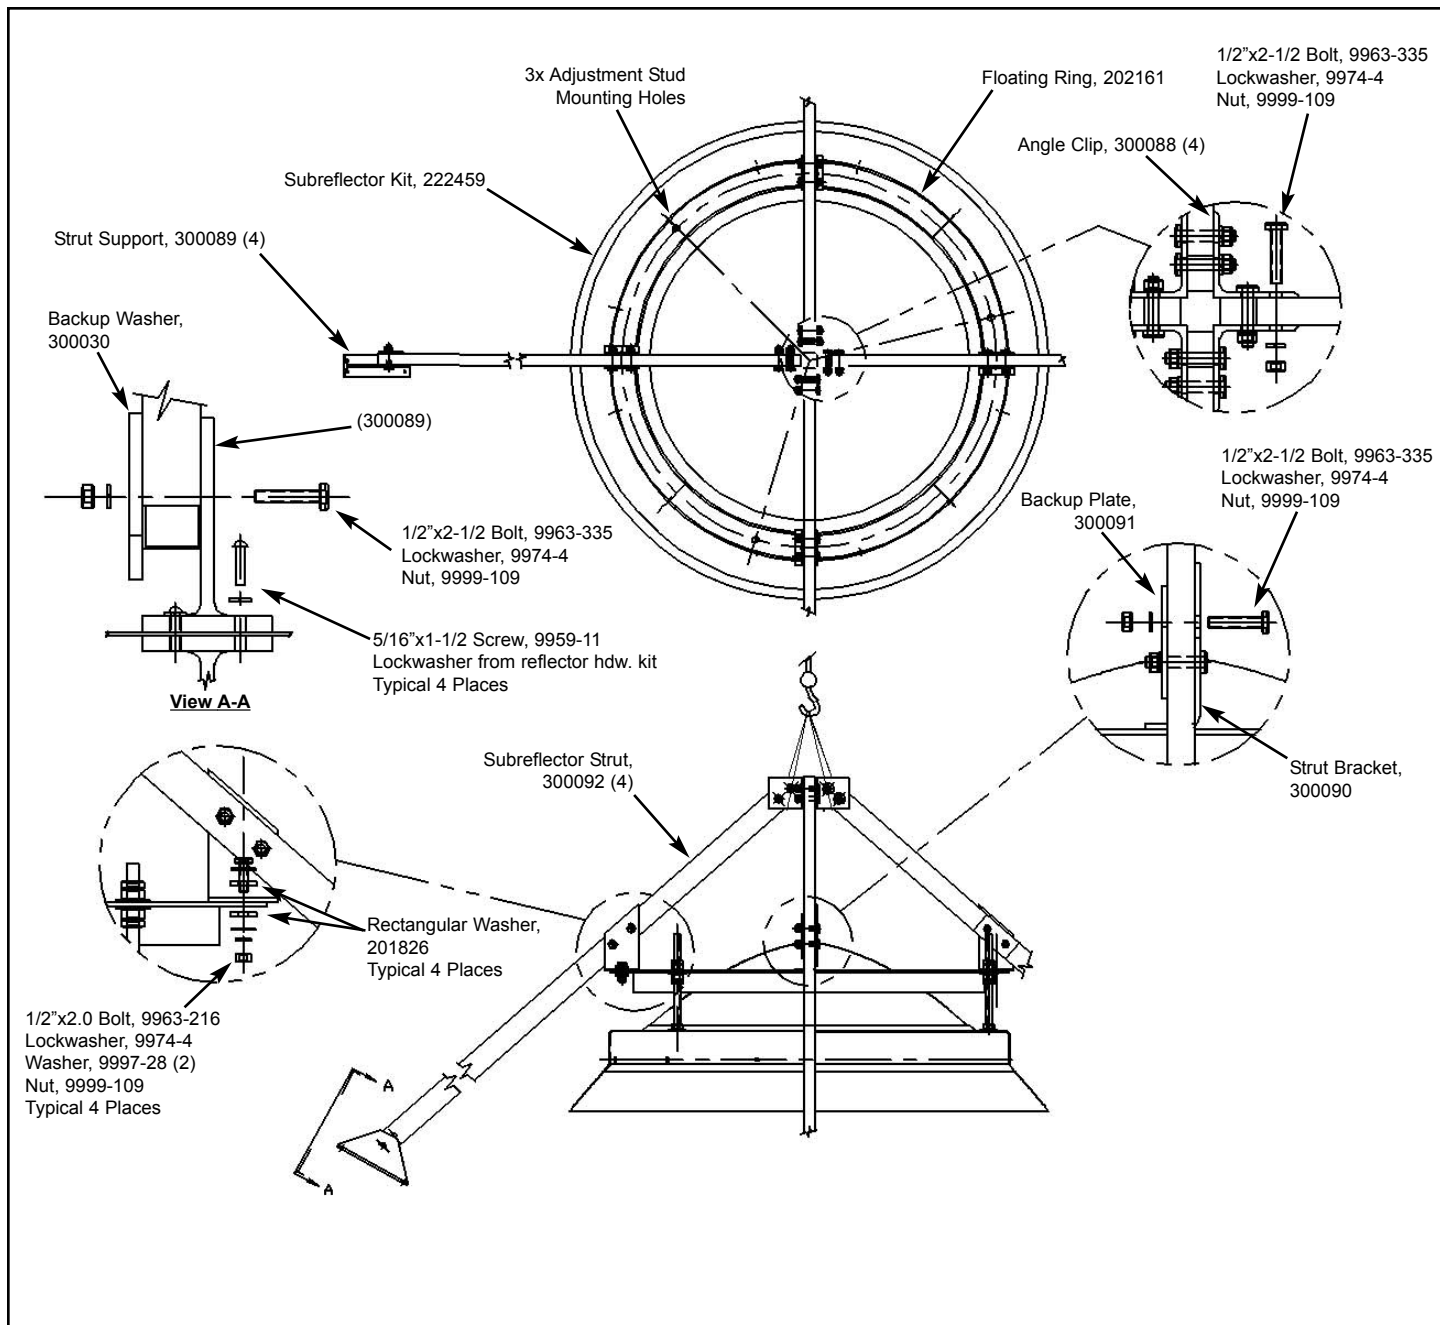
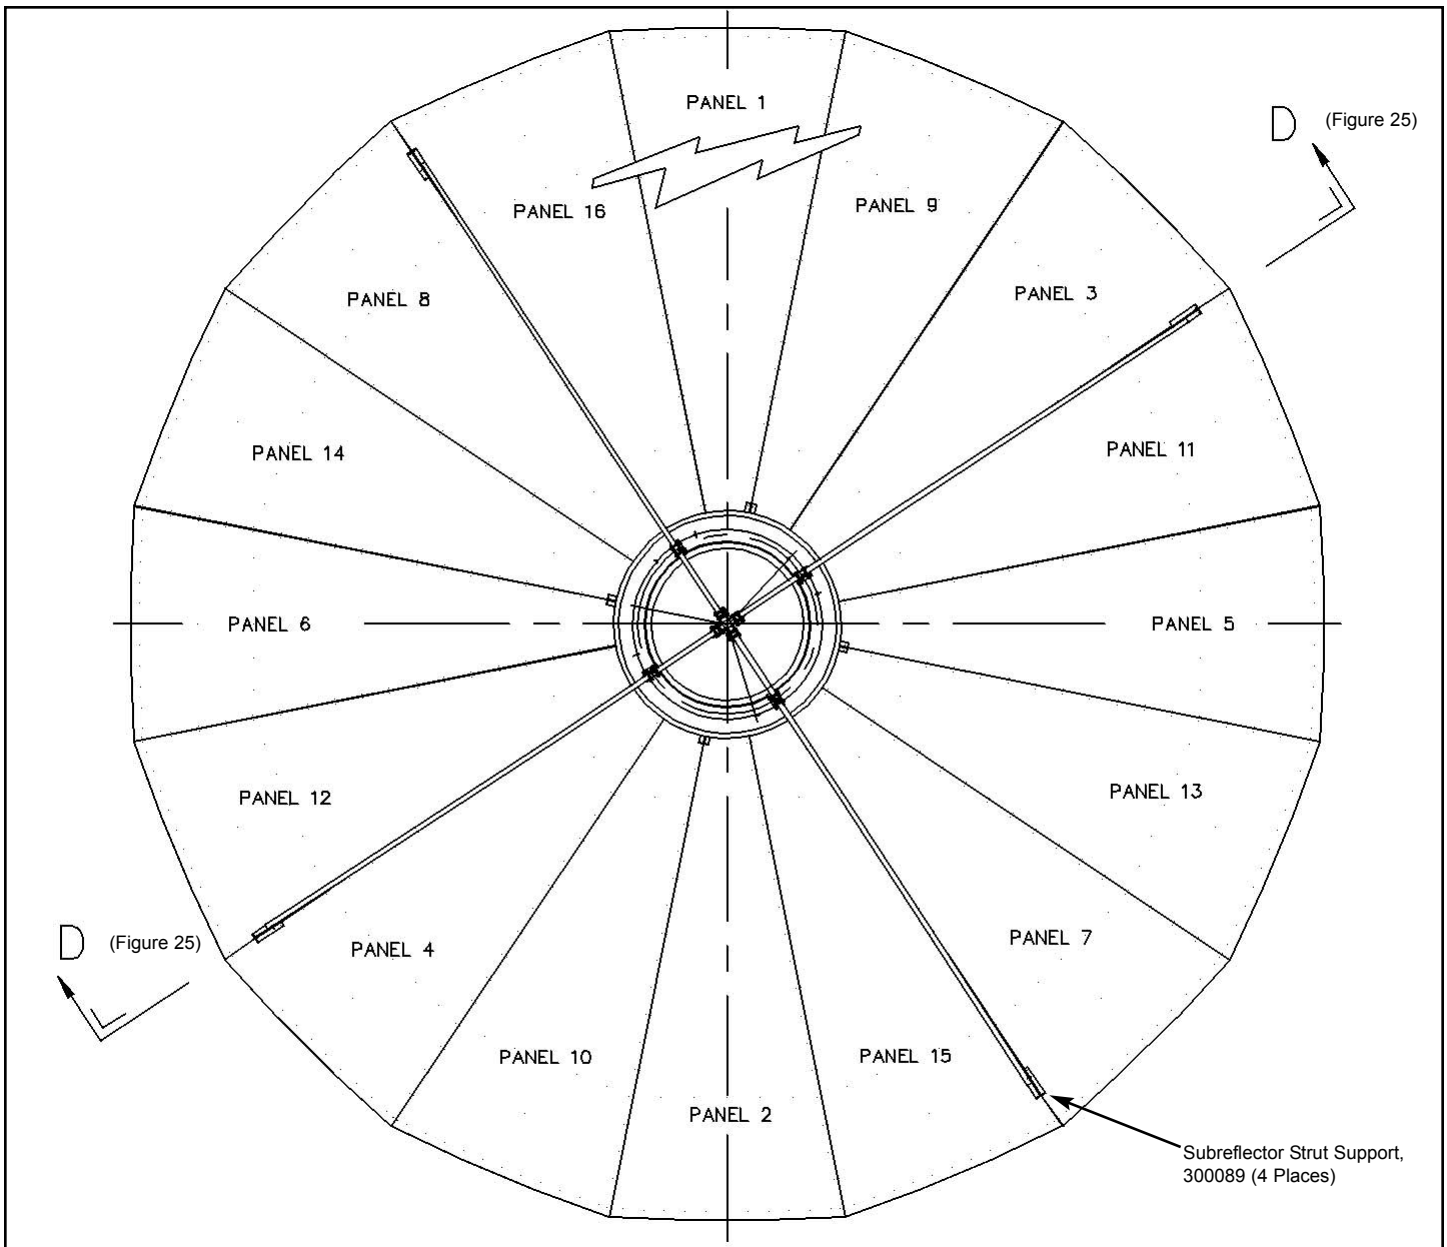
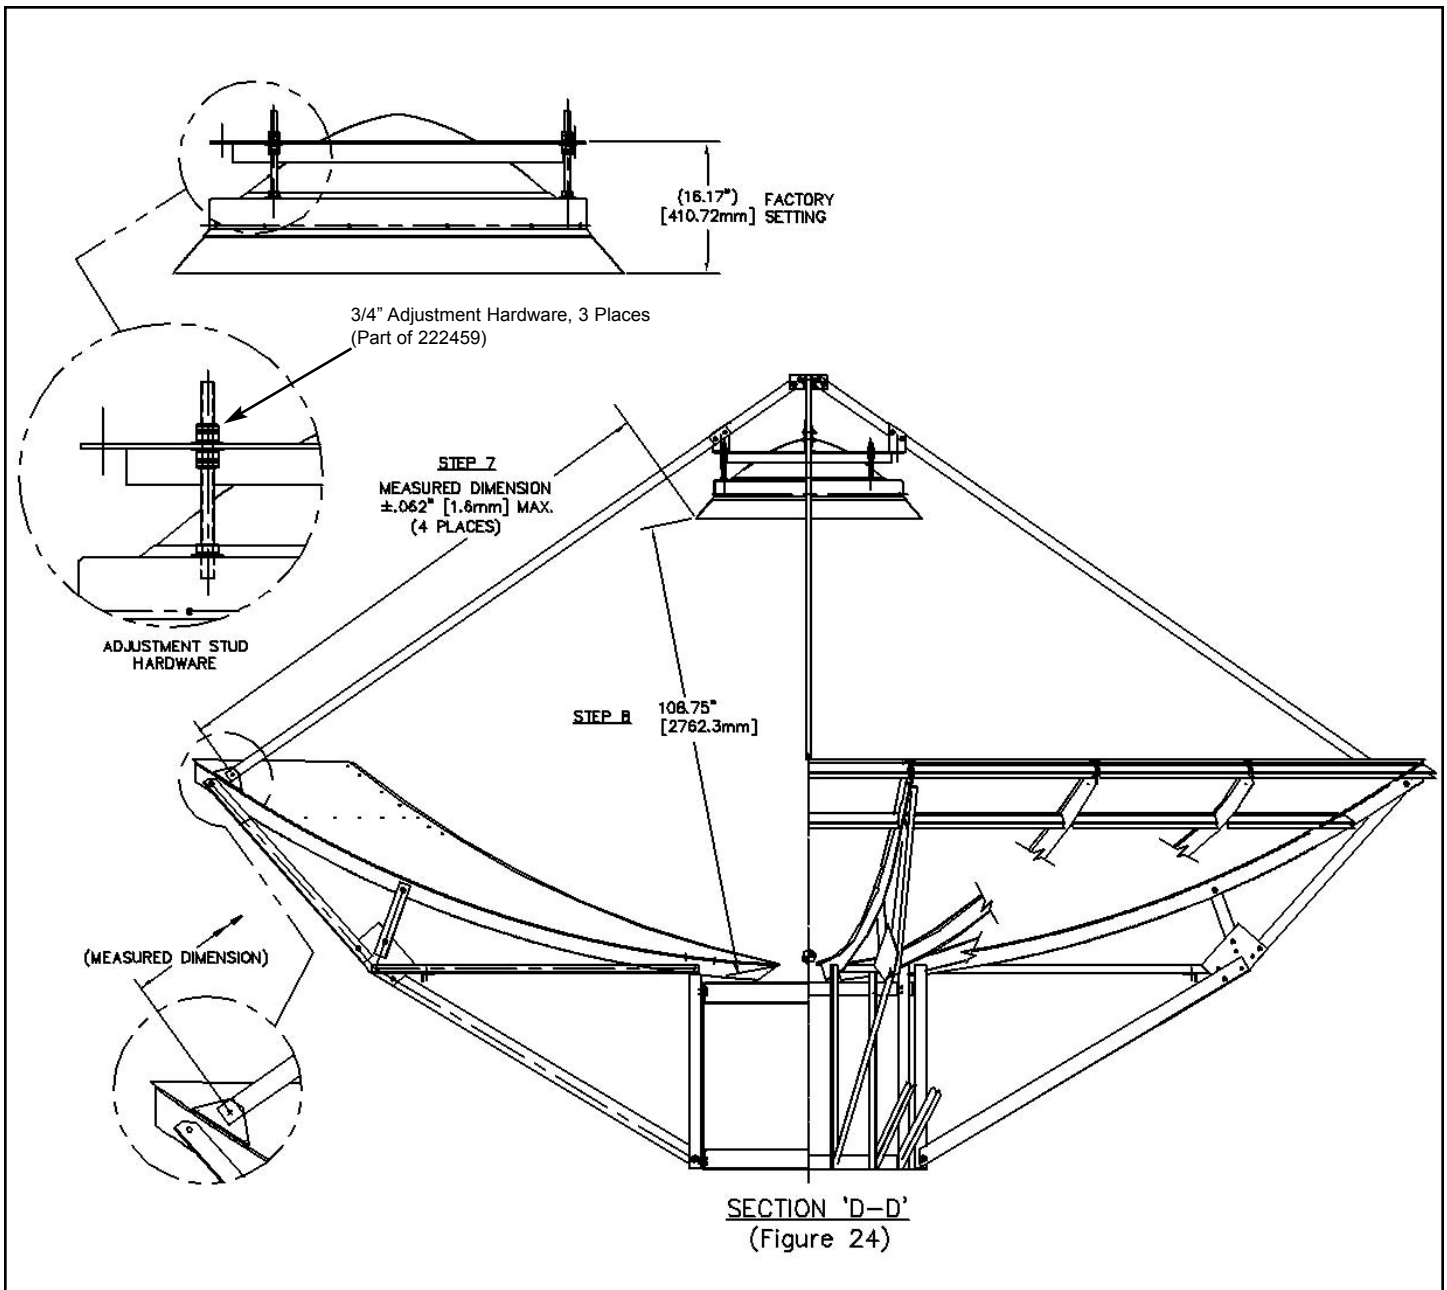

Figure 23
Figure 24
Figure 25
Refer to Figure 23. Loosely assemble Subreflector Strut Assembly (300092) as shown using supplied Angles (300088), Subreflector Strut Brackets (300090) and corresponding mounting hardware.
Step 3 Refer to Figure 23, View A-A and Figure 24. Loosely attach Subreflector Strut Supports (300089) to panel segments 8-16, 3-11, 7-15 and 4-12 as shown. Replace screws, washers, lockwashers and nuts previously installed during reflector assembly.
Step 4 Subreflector Strut Supports should be positioned according to Step 3 and at the 2nd and 3rd seam holes from the outboard end of the rib. Refer to Figure 25.
Position and loosely attach pre-assembled Subreflector/Floating Ring assembly to corresponding mounting holes in Subreflector Strut Brackets as shown in Figure 23 using supplied bolts, rectangular washers, lockwashers and nuts. Attach temporary nylon slings, being careful not to damage subreflector assembly.
Step 5 Carefully raise and attach pre-assembled subreflector/strut assembly to corresponding subreflector strut supports as shown in View A-A (Figure 23) and Figure 25 using supplied hardware.
Step 6 Securely tighten all subreflector/strut assembly mounting hardware except for floating ring hardware shown in Figure 25. Remove temporary nylon slings.
Measure and note the distance between outermost subreflector strut support bolt head and the subreflector rim as shown in Figure 25. Obtain corresponding measurements from remaining subreflector struts. These measurements should have a maximum differential of 0.062 in. (1.5mm). If adjustment is necessary, loosen the four floating ring bolts and slide subreflector appropriately to achieve the 0.062 in. (1.5mm) differential. Make sure to re-tighten bolts when finished.
Refer to Figure 25. Use measuring tape to set indicated dimension between bottom edge of panel and subreflector aperture rim at the three subreflector adjustment stud locations. Use subreflector adjustment stud hardware to achieve equal axial dimension of 108.75 in. (2762.3mm) at all three locations. Securely tighten adjustment hardware.